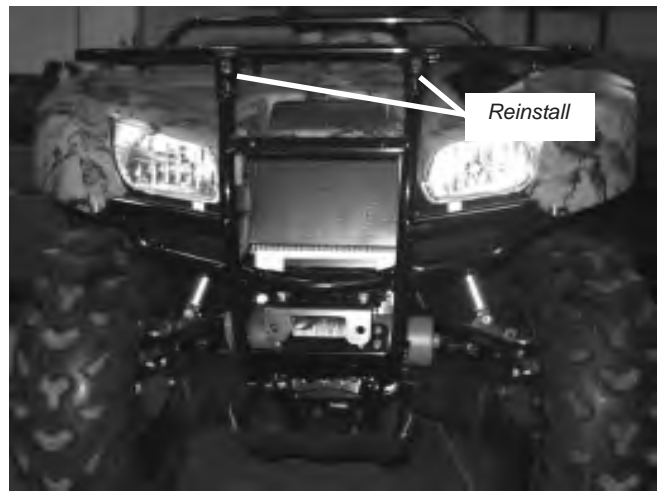

Figure 10 Place Bumper Back onto Vehicle
- Place front bumper and loosely positioned winch assembly back onto the vehicle frame, figure 10. Reinstall the two top bumper bolts that were removed in step 5. Do not tighten at this time.